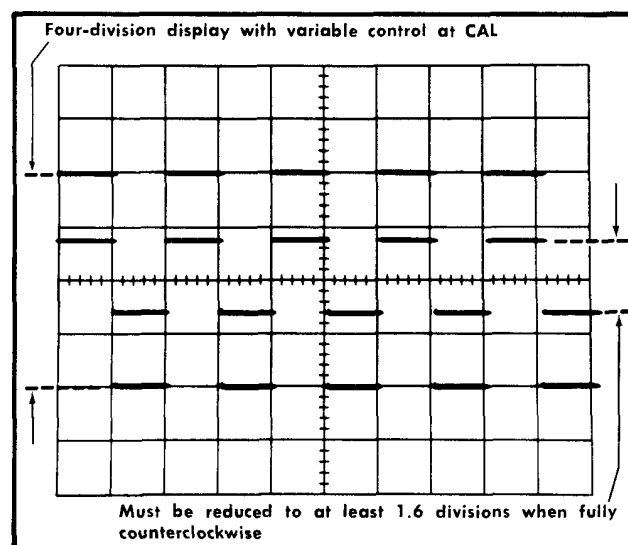

Fig. 5-3. Typical CRT display showing correct VARIABLE VOLTS/DIV control range (double exposure).
- CHECK—Turn the Channel 2 VARIABLE VOLTS/DIV control fully counterclockwise. Display should be reduced to 1.6 divisions or less (reduction in amplitude by a factor of at least 2.5:1; see Fig. 5-3). Channel 2 UNCAL light must be on when VARIABLE control is not in CAL position.
- CHECK—TURN the Channel 1 VARIABLE VOLTS/DIV control fully counterclockwise. Display should be reduced to 1.6 divisions or less (reduction in amplitude by a factor of at least 2.5:1; see Fig. 5-3). Channel 1 UNCAL light must be on when VARIABLE control is not in CAL position.